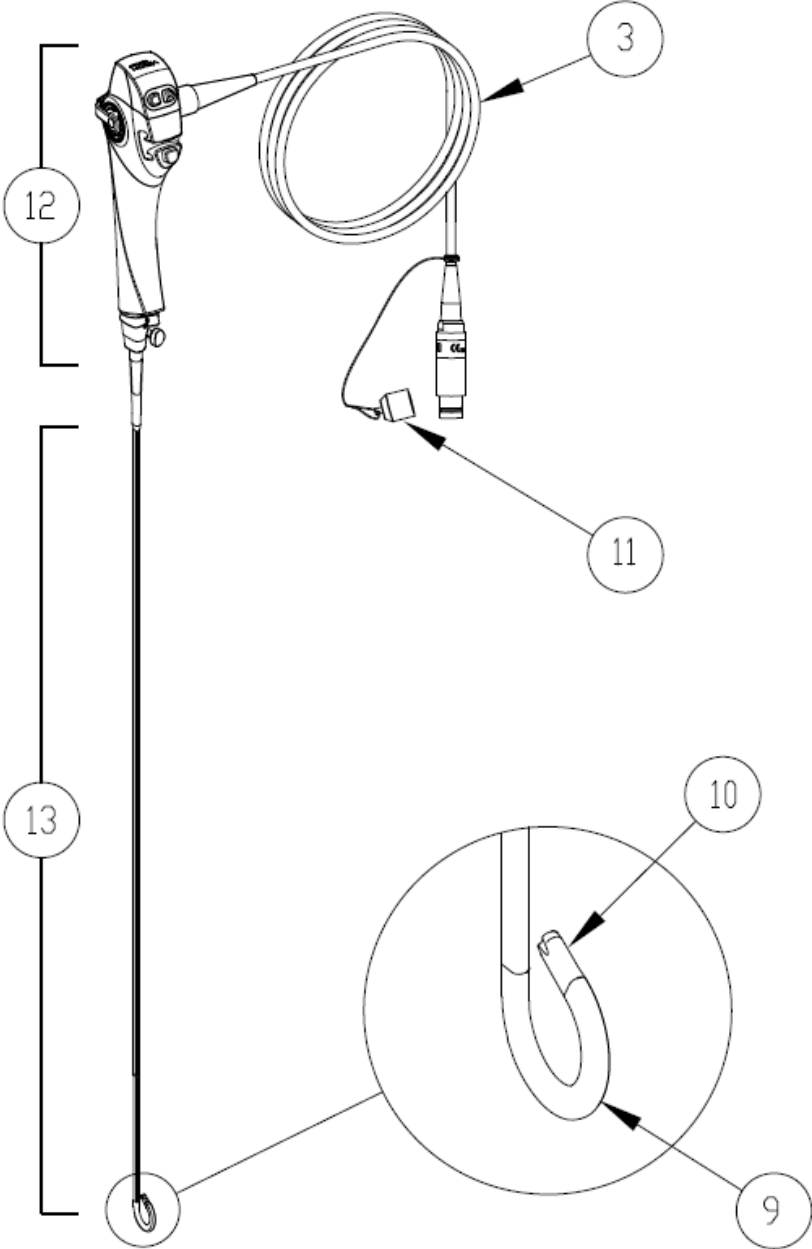

Figure 3-1: BRS-5100 Flexible Video Bronchoscope
- The **BRS-5100** Flexible Video Bronchoscope, which is shown in Figure 3-1 and 3-2 on pages 11 and 12. The Bronchoscope's Insertion Tube does not have a working channel; it contains the video camera module and illumination bundles.